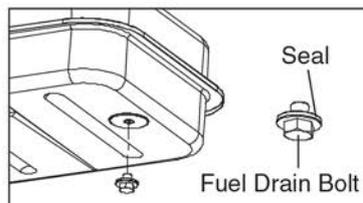

Figure 9. Drain Bolt
4. Turn “THERMOSTAT CONTROL Knob” to desired setting (setting range : 4°C ~ 43°C) and push power switch to ON” position, power indicator lamp will light and heater will start. If heater does not start, the thermostat setting may be too low, turn THERMOSTAT CONTROL Knob” to higher position to start heater. If heater still does not start, turn power switch to “OFF” and then to “ON” position.(See Figure9). If heater still does not start, see Troubleshooting Guide on page 15.
2. Remove fuel drain bolt from rear bottom side of fuel tank using 3/4” socket or adjustable wrench and drain. (For JEFHTSPC 105 / JEFHTSPC 150 Models Only. See Figure 9)
(For JEFHTSPC 105 / JEFHTSPC 150 Models Only. See Figure 9)